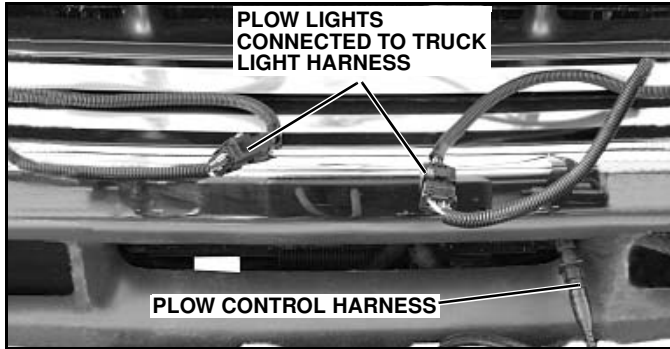

Figure 1-30
2. Plug EIS® plow light connectors into mating connectors on truck light harness. (See Figure 1-30).